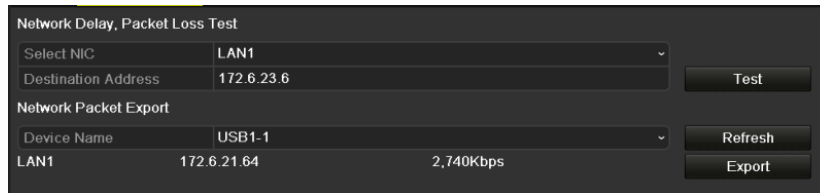

Figure 10-26 Export Network Packet
Step 3 Select the backup device from the dropdown list of Device Name, as shown in Figure 10-26.